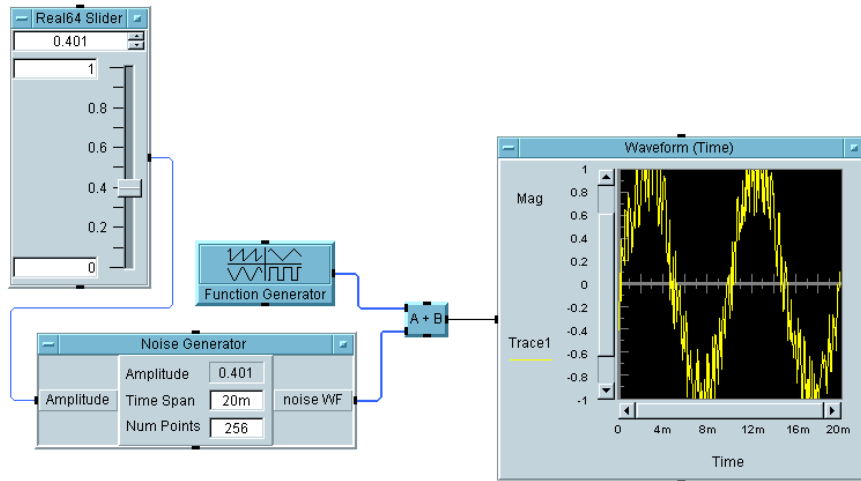

Figure 1-40. Example: Adding a Real64 Slider Object
3. Add a Real64 Slider object (Data \Rightarrow Continuous \Rightarrow Real64 Slider) and connect its data output pin to the Amplitude terminal, as shown in Figure 1-40. Run the program.